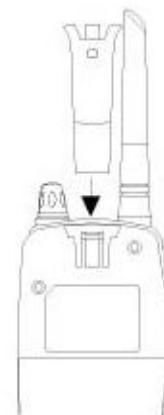

Figure 4
1. Slide the **BELT CLIP** into the **BELT CLIP SLOT** as shown in Figure 4.